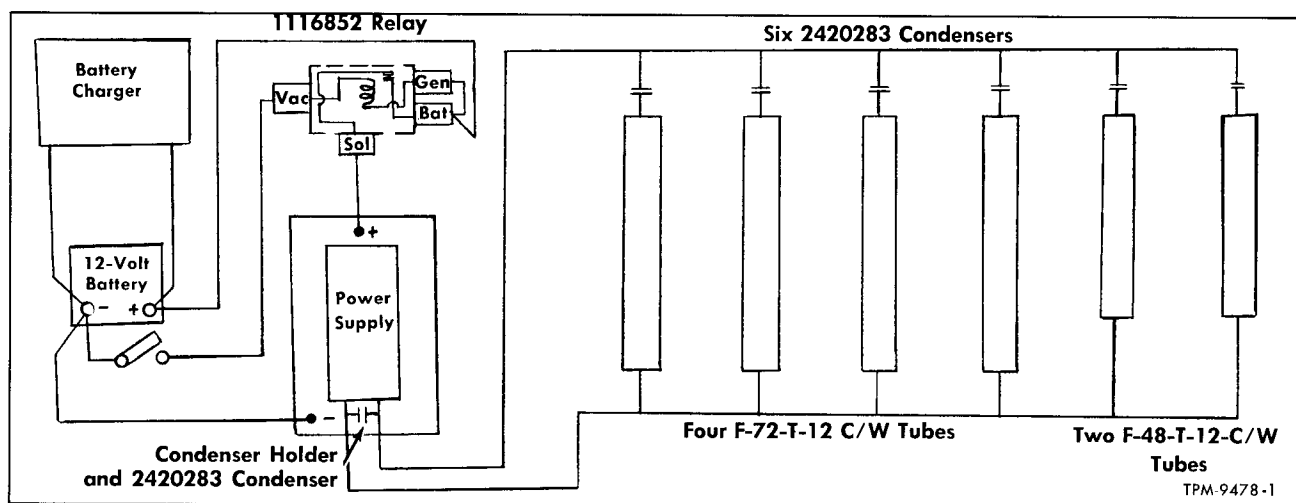

Figure 16—Schematic Diagram of Power Supply Unit Bench Test Hook-up
As it is not possible to measure output voltage directly or indirectly from the output terminal of the power supply unit, the following procedure should be observed when bench testing the fluorescent light power supply unit: (Refer to figure 16 for schematic diagram of electrical connections necessary for the following test.)
4. Connect a relay to the eighty inches of wire at any point between the battery "POS" post and the "POS" post of the power supply. Refer to figure 16 for relay hook-up.